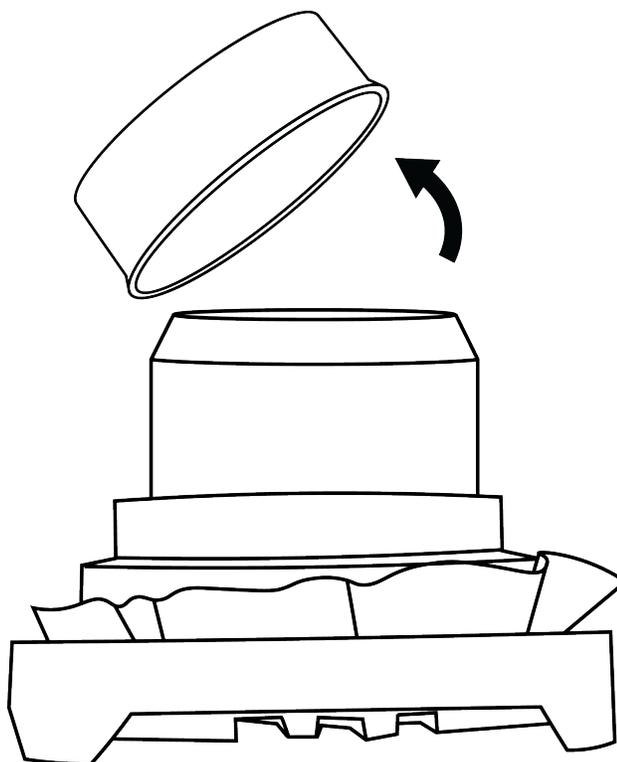

Figure 22 Turn and remove other lid
6. Turn the soil sample and remove the other lid (Figure 22).